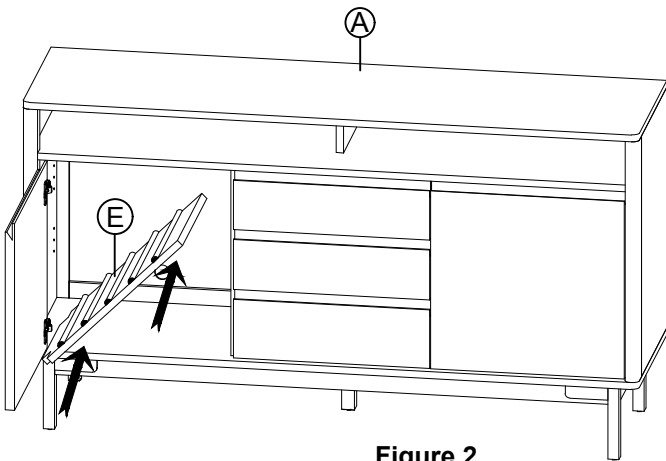

Figure 2
Tilt the Left Shelf (E) and place it inside the Buffet (A). Repeat this step on the other Left Shelf (E). (See Figure 2 & 3.)